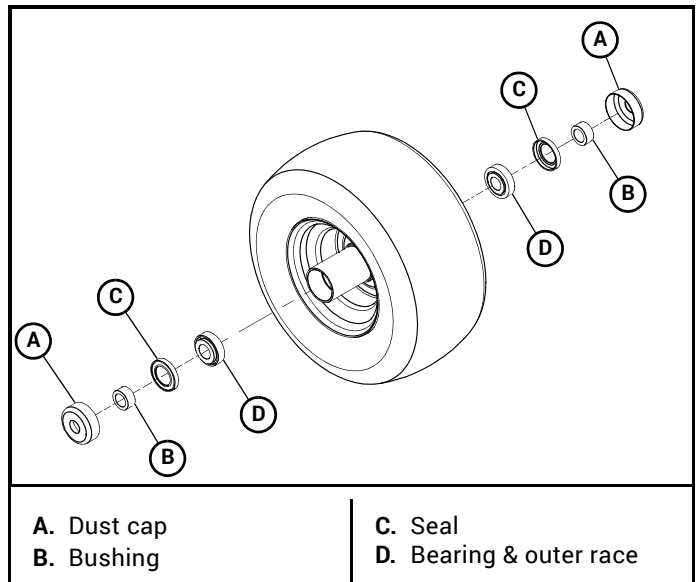

Figure 4-31
- Remove the dust caps and bushings from the wheel housing. Retain these parts. Figure 4-31
- Remove and discard the seals. Figure 4-31
- Remove and discard the tapered roller bearings and outer bearing races. Figure 4-31